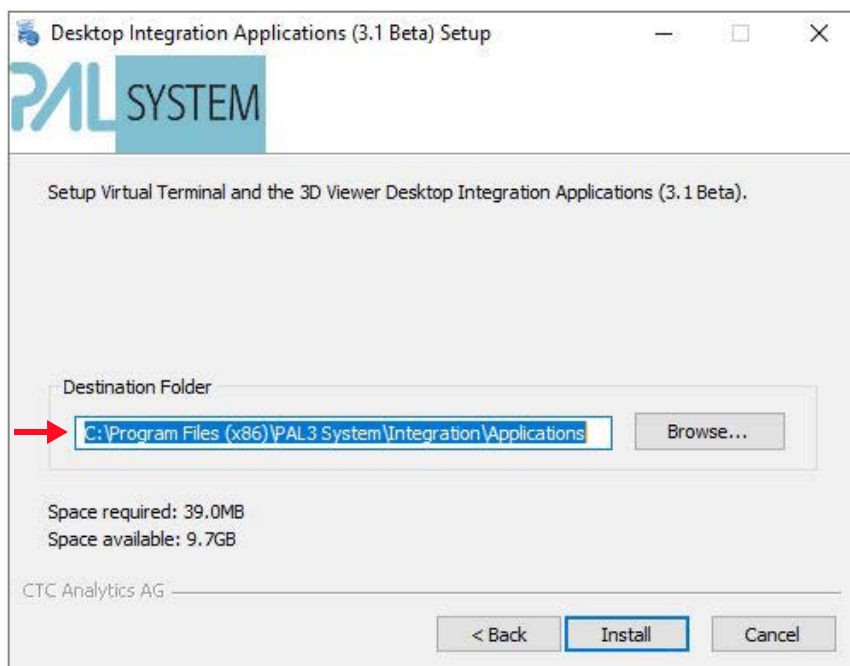

Figure 5-12. Using the destination folder for the Desktop installation
8. Use the proposed destination folder for the Desktop installation. See Figure 5-12.